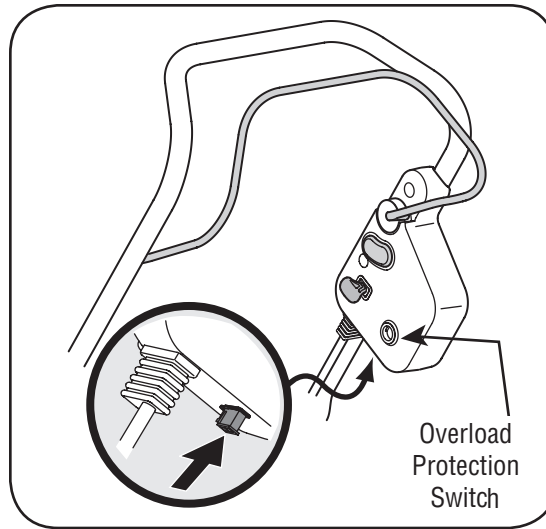

Figure 4-2: Charging the battery.
Plug the battery charger into the mower first, and then into any standard 110/120 volt household electrical outlet. See Figure 4-2 for battery charging location on mower.
2. Press the overload protection switch inward to reset. See Figure 4-2 in Operation section.